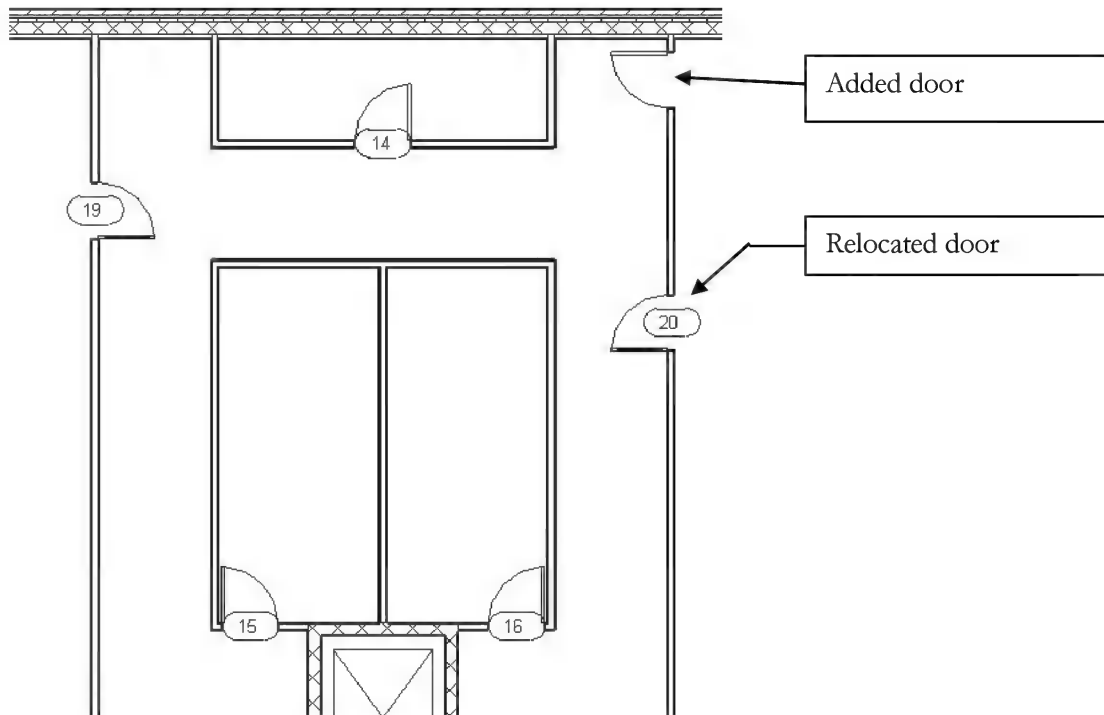

FIGURE 8-4.2 Level 2 plan with changes
6. Switch to **Level 2** floor plan view (Figure 8-4.2).